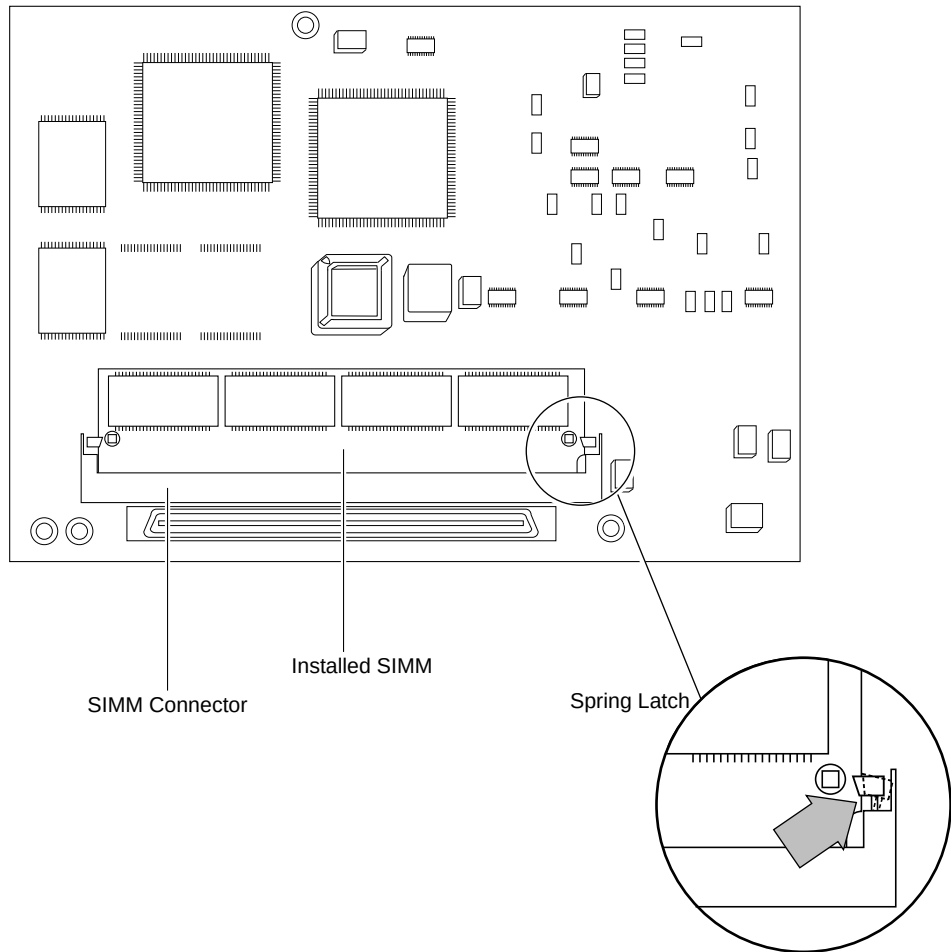

Figure 2-1. Location of SIMM on DCM Board
1. **Look at the connector side of the DCM and identify the SIMM connector and installed SIMM near the edge of the board (Figure 2-1).**